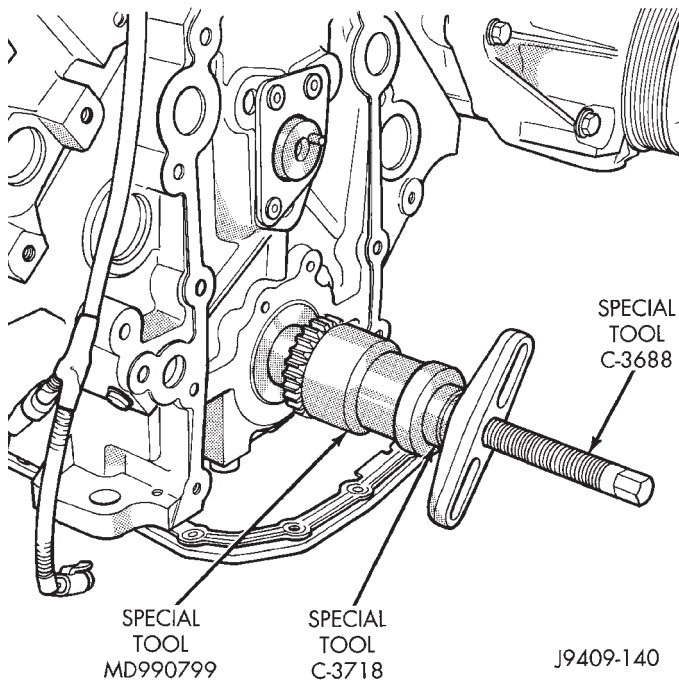

Fig. 41 Crankshaft Sprocket Installation
(4) Line up key with keyway in sprocket, press on crankshaft timing sprocket, use tools C-3688, C-3718 and MB990799, to seat sprocket against crankshaft shoulder (Fig. 41).